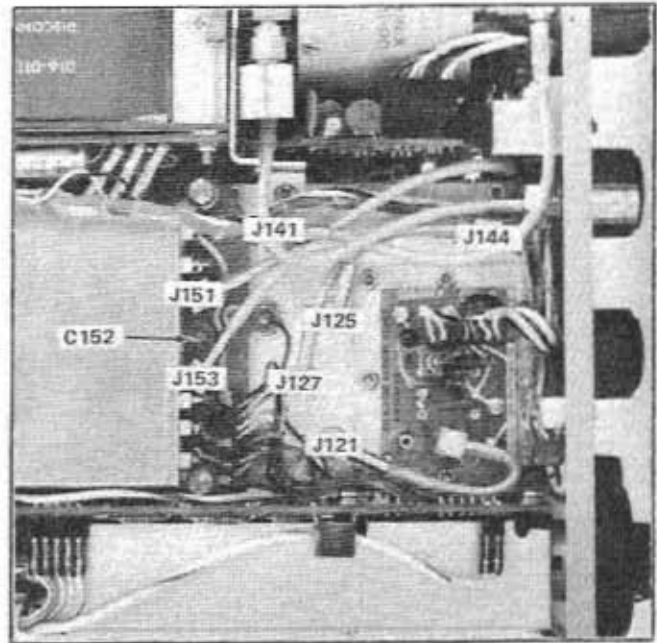

Fig. 6-5. Connections to the RF circuits and location of bandpass filter adjustment C152 (Gate Calibrator board removed).
l. Remove the signal generator connection to J210 and re-connect multi-pin connector P210. Remove P161 and apply 695 MHz, from the UHF signal generator to J161 (input to 695 MHz filter, see Fig. 6-5).
2) Adjust Band Pass Filter with C152 (Fig. 6-5) for maximum response.